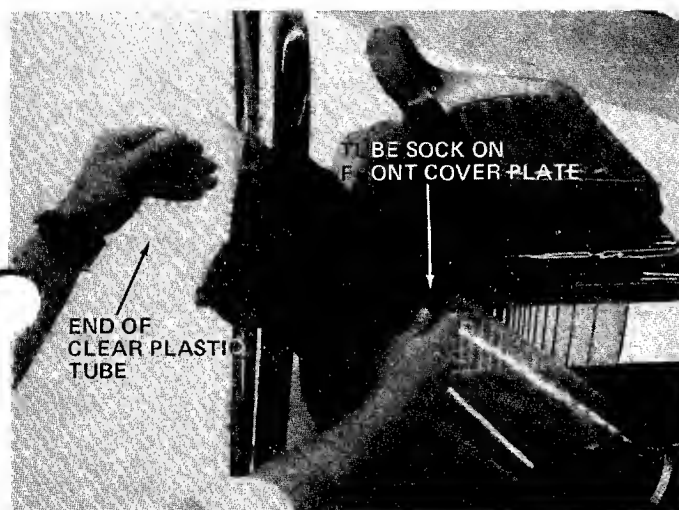

FIGURE 14
15. Place end of clear plastic tube through tube sock located on front of front cover plate as shown in figure 14.